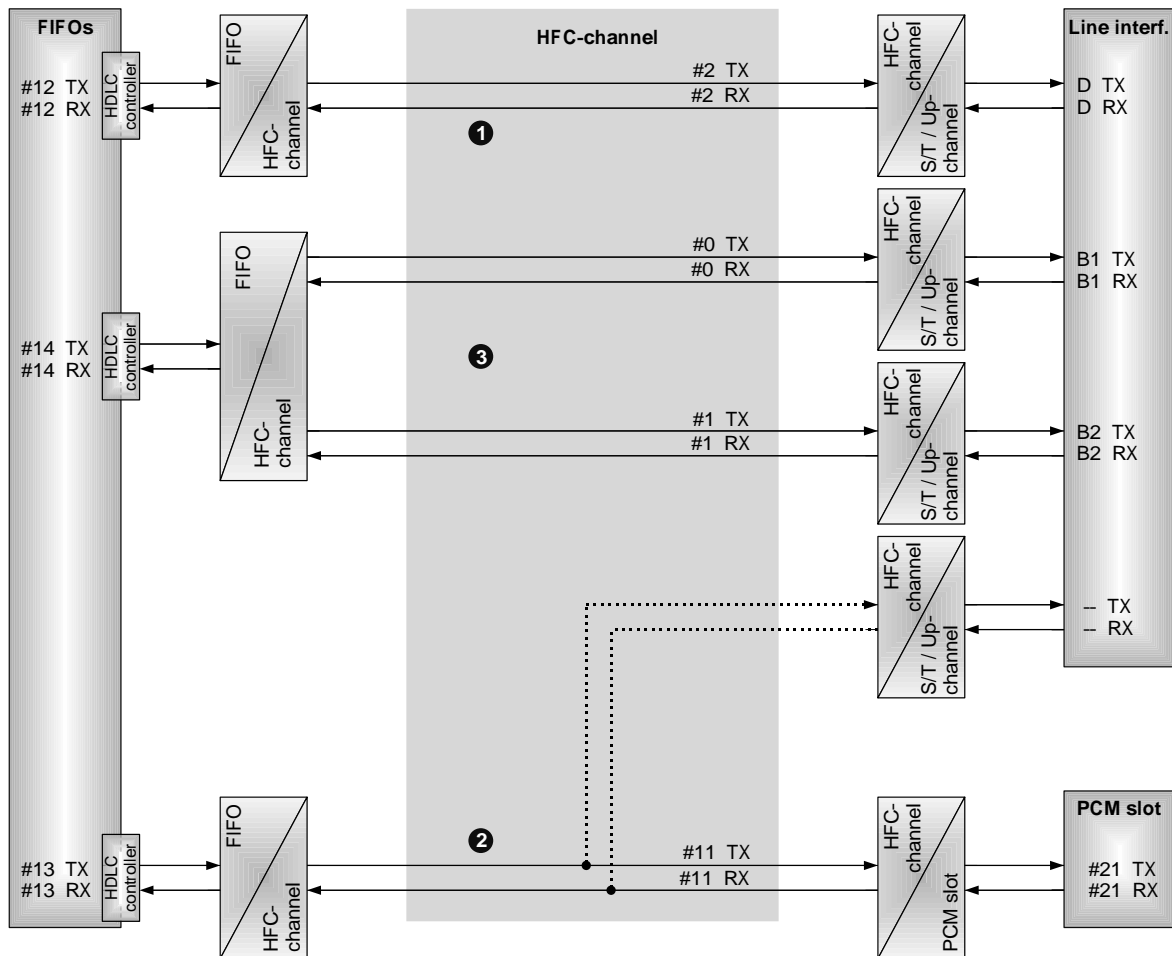

Figure 3.12: FSM example
Figure 3.12 shows an example with three bidirectional connections (❶ 8 kByte/s-FIFO-to-ST / Up , ❷ 8 kByte/s-FIFO-to-PCM and ❸ 16 kByte/s-FIFO-to-ST / Up ). The black lines illustrate data paths, whereas the dotted lines symbolize blocked HFC-channels. These are not used for data transmission, but they are necessary to enable the settings.
**Table 3.5:** List specification of the example in Figure 3.12